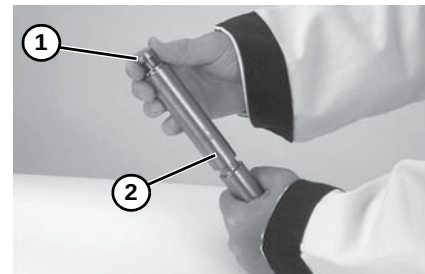

Figure 54
2. Slide bearing (**Figure 54, item 1**) onto spindle (**Figure 54, item 2**).